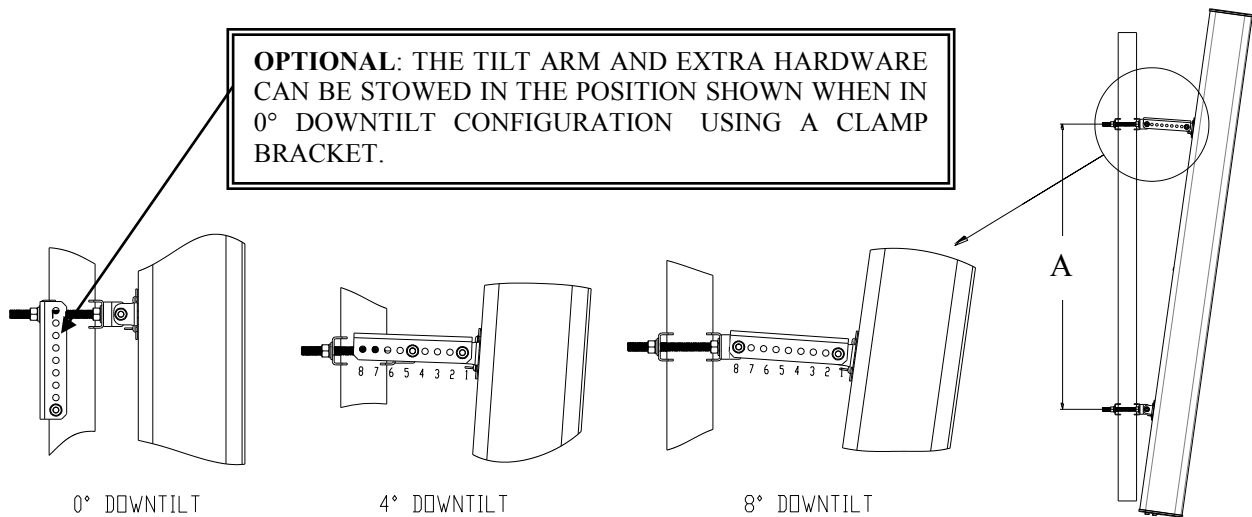

Figure 4: Typical Example of Upper Bracket Placement for Various Downtilts
- Downtilt can be achieved by aligning the corresponding hole in the tilt arm to the pivot bracket which mates against the mounting pole, as shown in Figure 4. The first hole is for 1° downtilt*, with each consecutive hole resulting in an increased inclination of 1°.
- For 0° downtilt the tilt arm may be stowed as show in Figure 4.